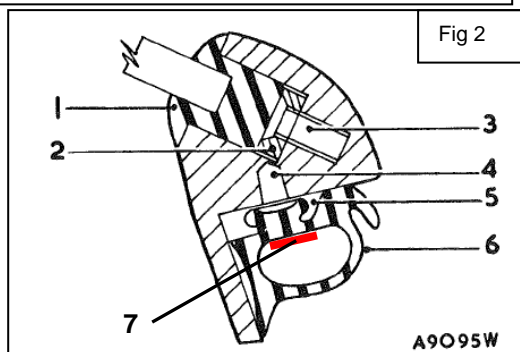

Fig 2
Fig 2: In the MGB shop manual (Figure R.1) shows the seal in cross section, but it is not complete. The seal (6) is clearly held in place by the retainer (5). The support (7) is not shown in the shop manual, so we added it here. The drive rivet shown (4) may have been used initially, but it would have gone through the seal support (7), the seal (6), the seal retainer (5), then into the blind hole in the windshield frame. Instead of drive rivets, the original windshields we have examined use #6 sheetmetal screws, 1/2" long.